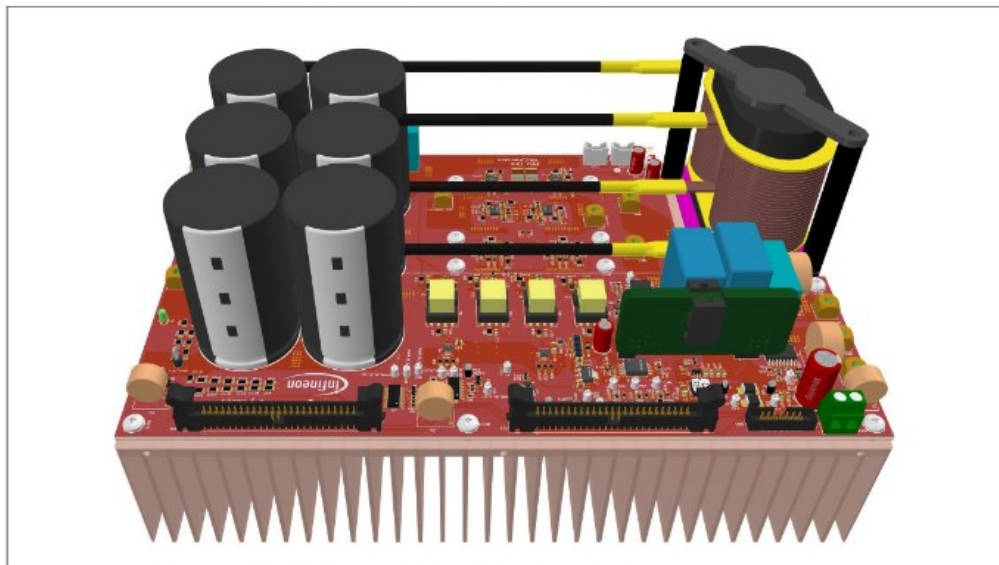

Figure 2 Power conversion reference design REF-6KWHEREIC
Figure 2 shows the completely assembled 6 kW HERIC reference design.
- In Fig. 2 of the UG, four prominent yellow blocks are visible. These are **not MOSFETs** but **transformers**.
- From Fig. 2 UG, I estimate the heatsink dimensions to be **width 250 mm, length 150 mm, height 40 mm**.